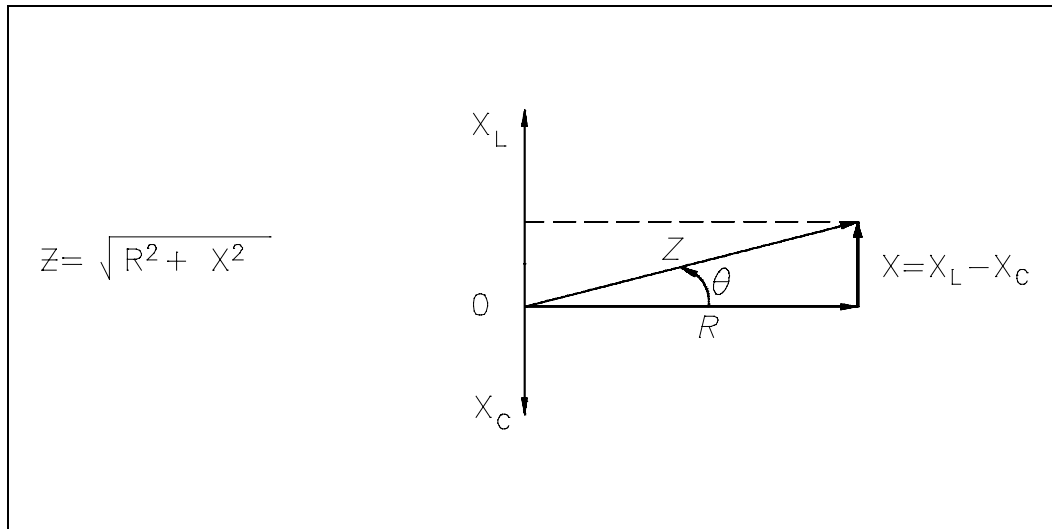

Figure 5 Relationship Between Resistance, Reactance, and Impedance
The relationship between resistance, reactance, and impedance is shown in Figure 5.
Impedance is the vector sum of the resistance and net reactance (X) in a circuit, as shown in Figure 5. The angle θ is the phase angle and gives the phase relationship between the applied voltage and the current. Impedance in an AC circuit corresponds to the resistance of a DC circuit. The voltage drop across an AC circuit element equals the current times the impedance. Equation (8-9) is the mathematical representation of the voltage drop across an AC circuit.